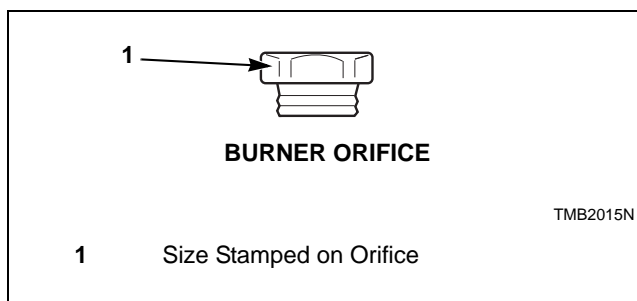

Figure 16
3. Install the new, correct burner orifice(s). Refer to *Figure 16* and *Table 1*. Torque each to 9 – 10 Nm.
4. Make certain burner orifice(s) are in line with burner tube opening. Refer to *Figure 16*.